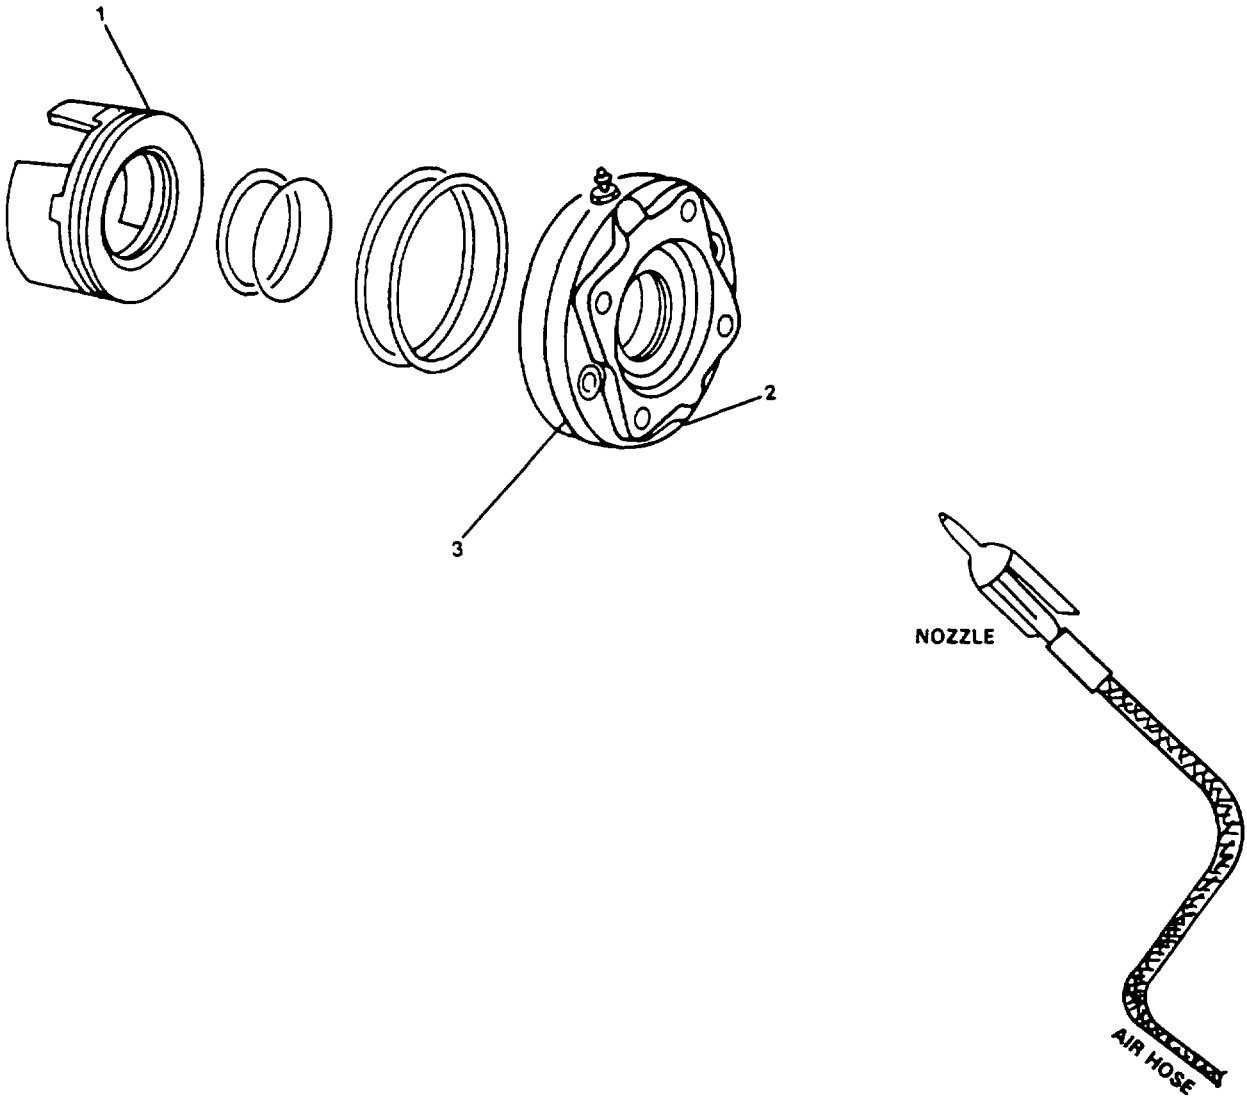

FIGURE 4-29. Failsafe Brake Assembly - Piston Removal.
- l. Separate piston (1, FIGURE 4-29) from power plate (3, FIGURE 4-29) by introducing low pressure air (15 psi) into failsafe brake hydraulic inlet (2, FIGURE 4-29).